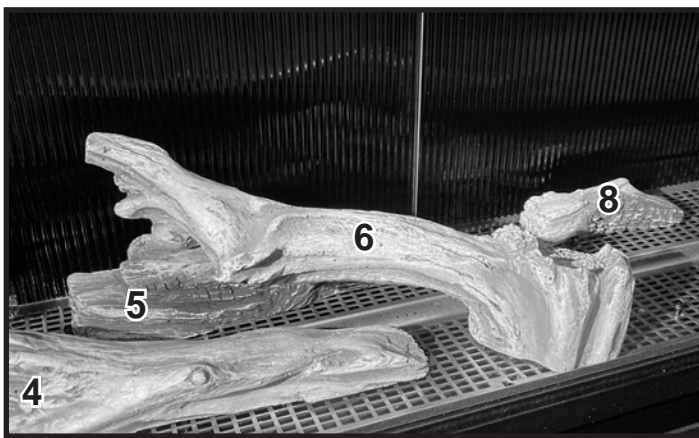

Figure 9 Install Log #6
**Log #6:** Insert the left side support feature of Log #6 into the recess on Log #5 as shown in Figure 9. Pivot the right side of the log forward until it contacts the media tray ledge. Ensure the log is stable and fully engaged with the supporting log.